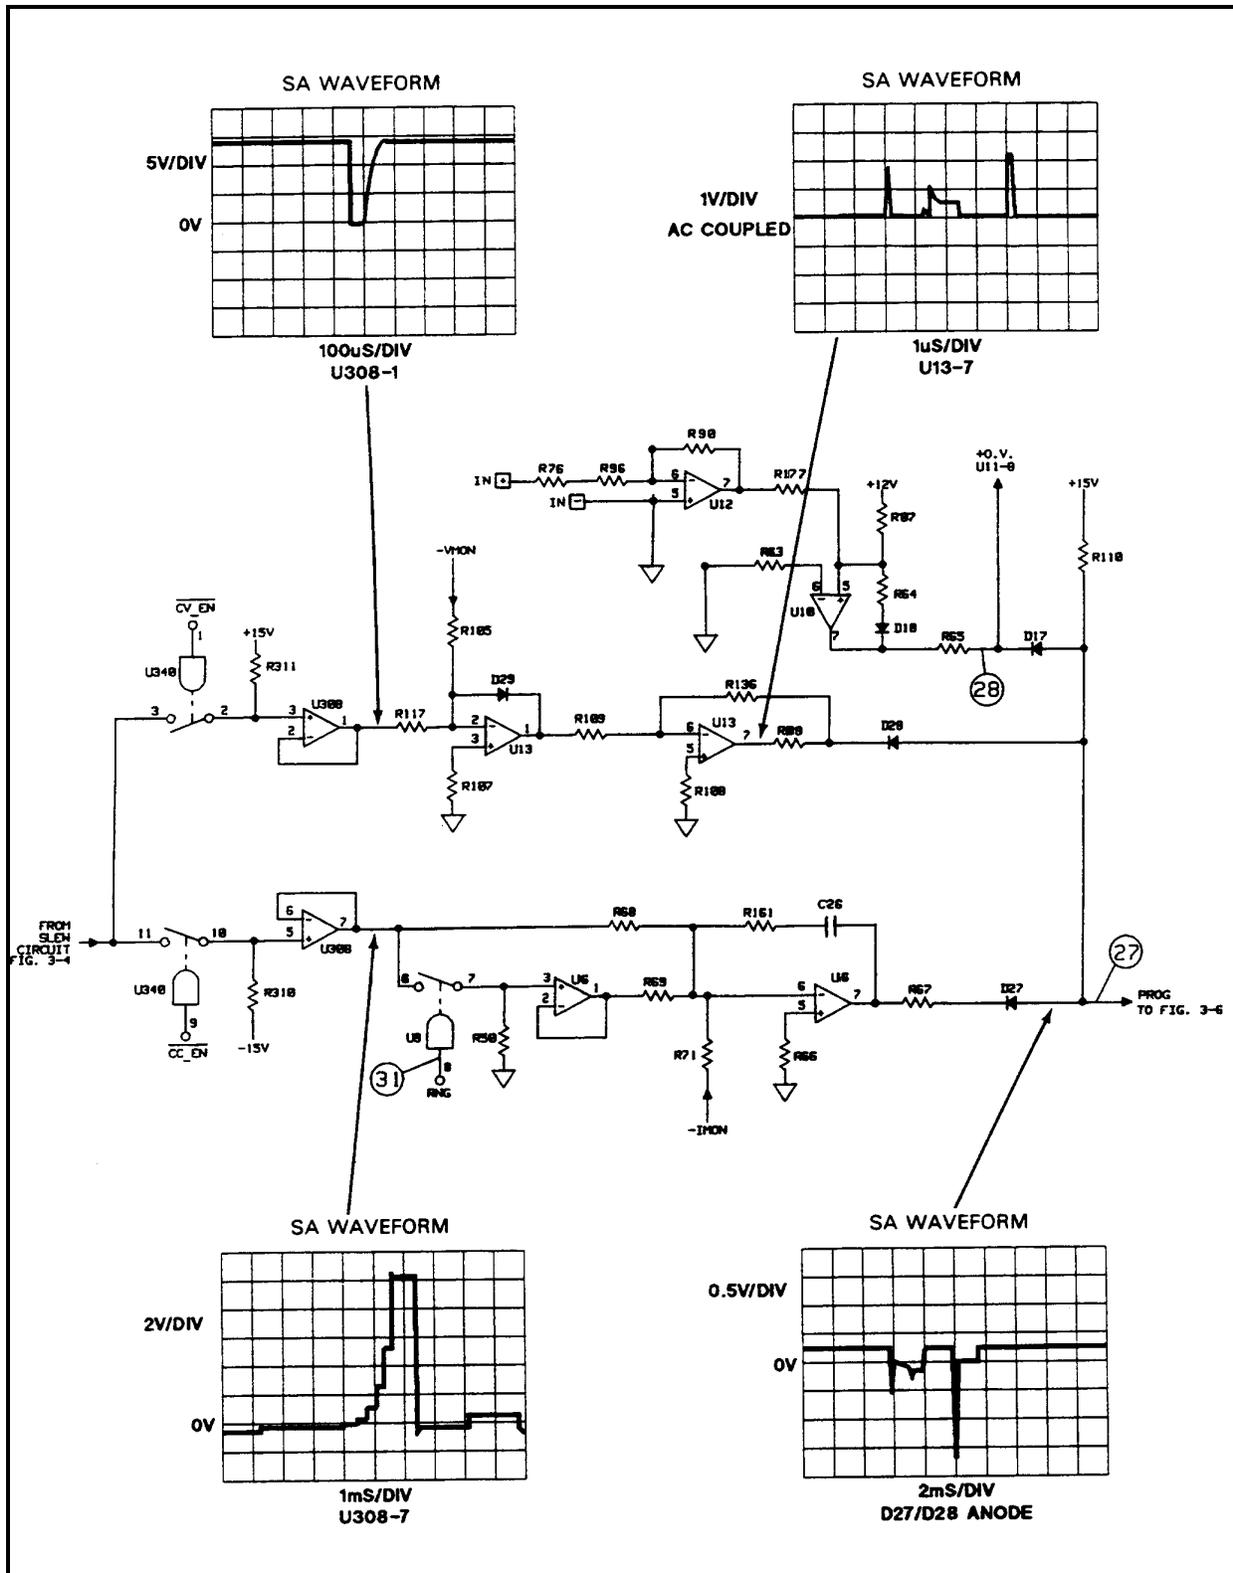

Figure 3-5. CC/CV Control Circuits Troubleshooting
CC/CV CONTROL CIRCUIT TROUBLESHOOTING (Figure 3-5)
The overvoltage (OV) circuit (U10, D17) is also shown on Figure 3-5. When an OV condition is detected, the OV circuit generates a negative signal on the PROG signal line via diode D17, which causes the input power stages to increase current flow to attempt to limit input voltage. R64 and D18 latch the OV circuit on. When activated, the OV circuit overrides the CC and CV control circuits.
To troubleshoot the CV or CC circuits, place the Electronic Load in the S.A. mode by connecting the jumpers in test headers TP201 and TP301 in the S.A. mode positions (see Figure 3-2). The waveforms shown in Figure 3-5 can only be generated when S.A. mode is on. If the waveforms are correct but a problem exists, troubleshoot the input power stages as described in the next section.